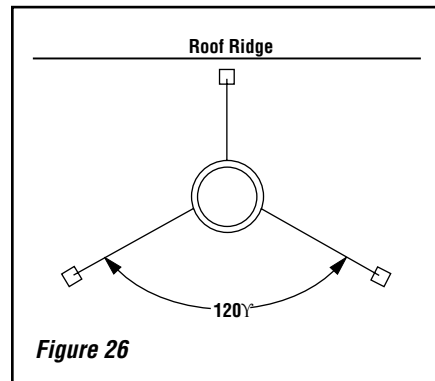

Figure 26
**Note:** If chimney extends more than 8' above roof surface, guy wires are also recommended. Use three (3) guy wires, attach to locking band assembly, extend and secure to roof in a triangular pattern (**Figure 26**). Guy wires are not supplied by the manufacturer.